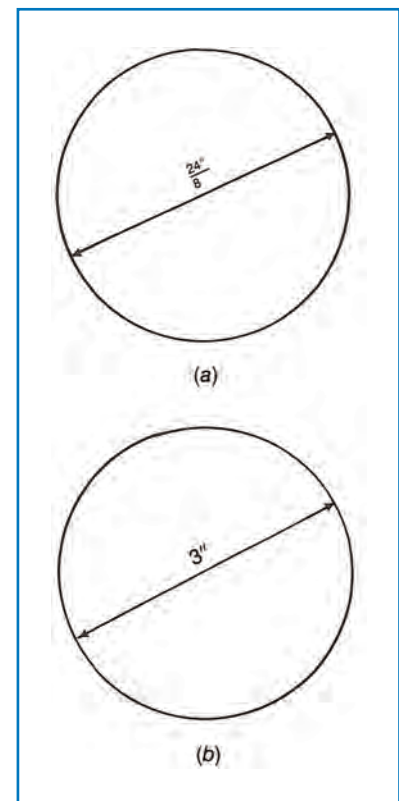

Fig. 4. Steel discs
**Fig. 4(a)** shows a steel disc which is to be machined to a diameter of  $24/8$ ". It would be impractical to actually measure off 24 one-eighths of an inch to check the finished dimension. Instead we convert the improper fraction  $24/8$ " to a whole or mixed number. This is done by simply dividing the numerator of the improper fraction by its denominator. Thus the improper fraction  $24/8$ " is converted to a whole number dimension of 3". This is much easier to step off on a scale or ruler. The correct dimensioning of the disc is shown in **Fig. 4(b)**.
Suppose the improper fractional dimension in **Fig. 4(a)** was shown as  $23/8"$ . To convert the improper fraction, divide the denominator as many times as it will go into the numerator evenly. The remainder becomes the new numerator while we retain the original denominator. So to convert  $23/8$  to a mixed number: